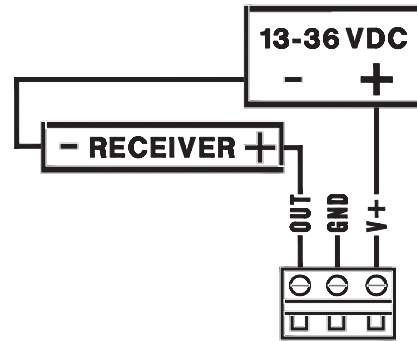
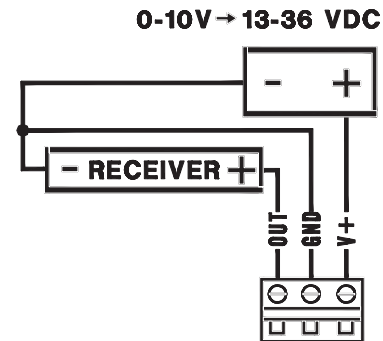

Figure 1
Figure 2
5. Proceed with wiring according to Figure 1 or Figure 2.
The Series BTT Temperature Transmitter can be ordered for current or voltage outputs. For current output models, the supply power must be between 13 to 36 VDC and the unit should be wired as shown in Figure 1.
For voltage output models, the power requirement must be between 13 to 36 VDC or 16 to 28 VAC. The unit should be wired as shown in Figure 2.